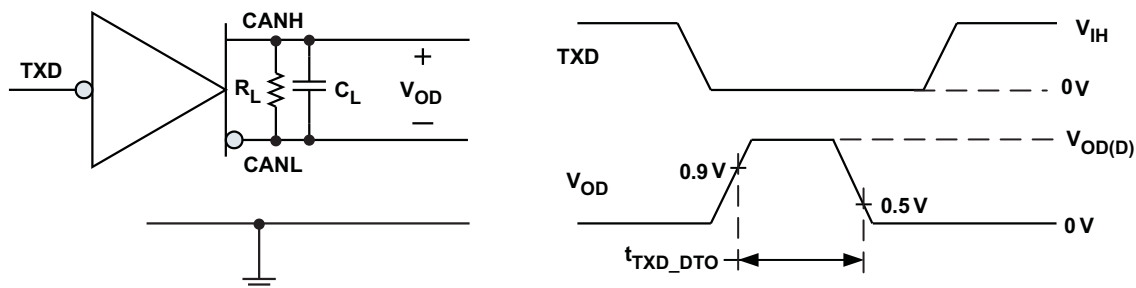

Figure 10. TXD Dominant Timeout Test Circuit and Measurement
| $t_{\text{TXD\_DTO}}$ Dominant timeout (1)   | See Figure 10, $R_L = 60\ \Omega$ , $C_L = \text{open}$   | 1175 |     | 3700 | $\mu\text{s}$ |